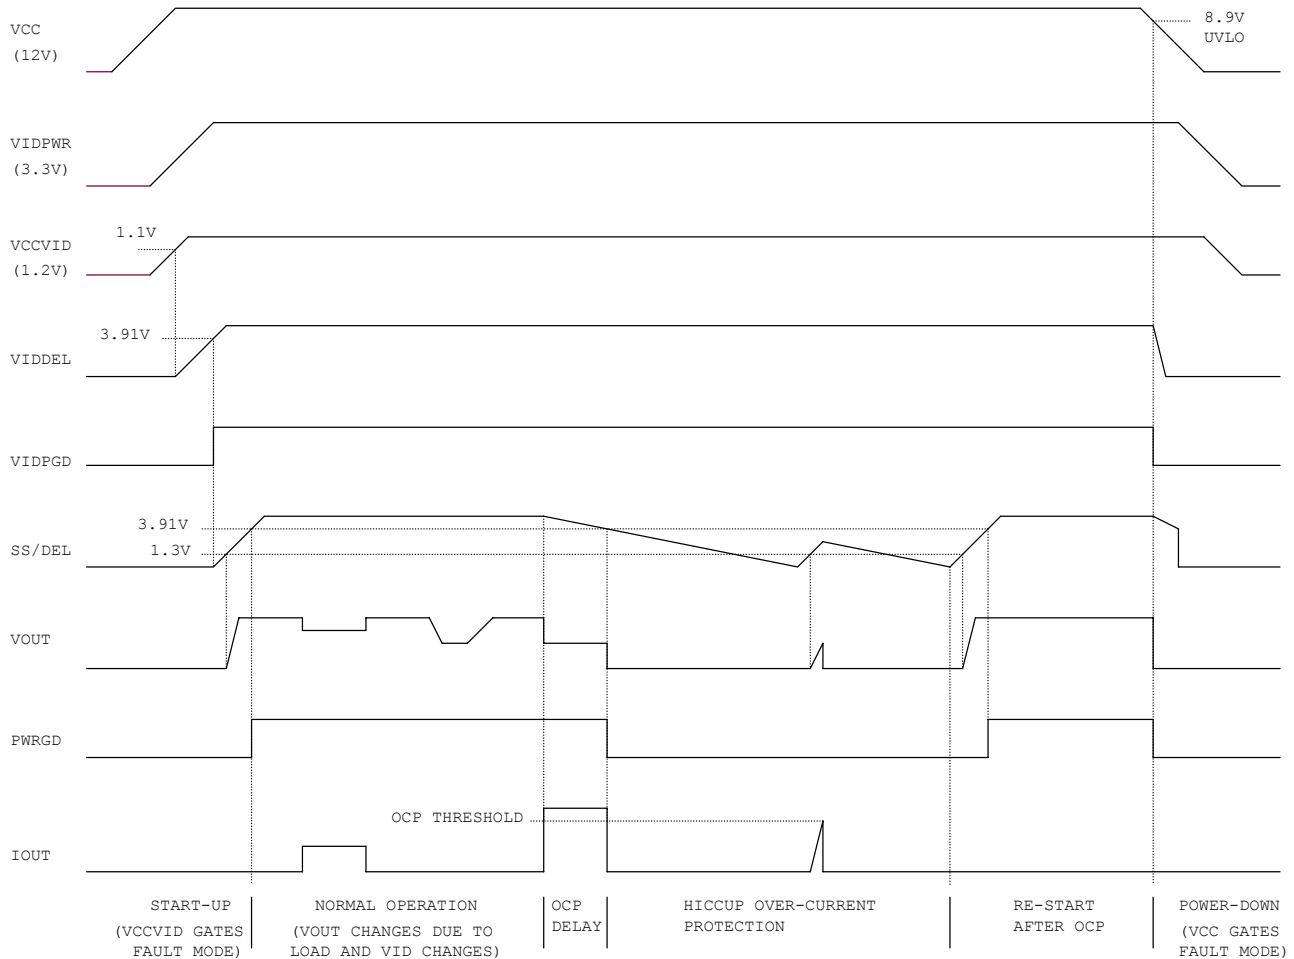

Figure 11. Operating Waveforms
Figure 11 depicts the various operating modes as controlled by the SS/DEL function. If there is no fault, the SS/DEL capacitor pin will begin to be charged. The error amplifier output is clamped low until SS/DEL reaches 1.3V. The error amplifier will then regulate the converter’s output voltage to match the SS/DEL voltage less the 1.3V offset until it reaches the level determined by the VID inputs. The SS/DEL voltage continues to increase until it rises above 3.91V and allows the PWRGD signal to be asserted. SS/DEL finally settles at 4V, indicating the end of the soft start.
The SS/DEL pin voltage controls the slew rate of the converter output voltage, as shown in Figure 11. After the VIDDEL pin voltage rises above 3.91V, there is a soft-start delay time  $t_{SSDEL}$ , after which the error amplifier output is released to allow the soft start. The soft start time  $t_{SS}$  represents the time during which converter voltage rises from zero to  $V_O$ .  $t_{SS}$  can be programmed by an external capacitor, which is determined by Equation (2).